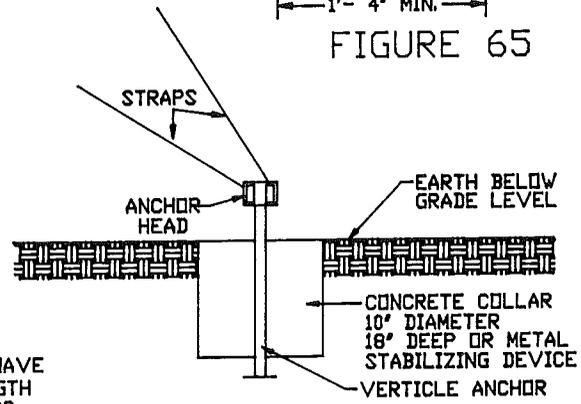
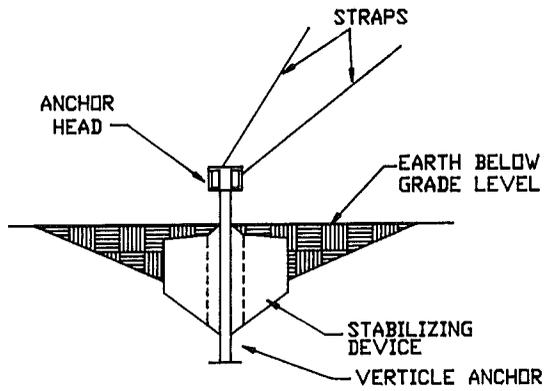

FIGURE 63
FIGURE 64
or metal stabilizing device driven in front of the anchors director of pull. The collar must be 10 inches in diameter and 18 inches deep. See Figure 63. As an alternate to the concrete collar, a stabilizing device may be installed on the anchor. See Figure 64.
3. IF ANCHOR IS INSERTED VERTICALLY A CONCRETE COLLAR OR STABILIZING DEVICE MUST BE USED AT THE GROUND LINE. SEE FIG. 63 & 64.
4. EACH OF THE STRAPS AND CONNECTIONS TO THE I-BEAM MUST HAVE AN ULTIMATE STRENGTH OF 4725 LBS. SEE FIG. 63 & 64.